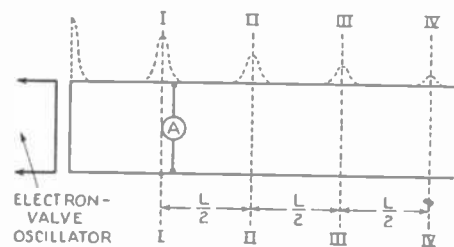

FIG. 1
A diagrammatic view of the oscillator used in Fig. 1 (A) is a loop which couples the parallel wires to the oscillator. The oscillator is designed to radiate waves of about five meters length.